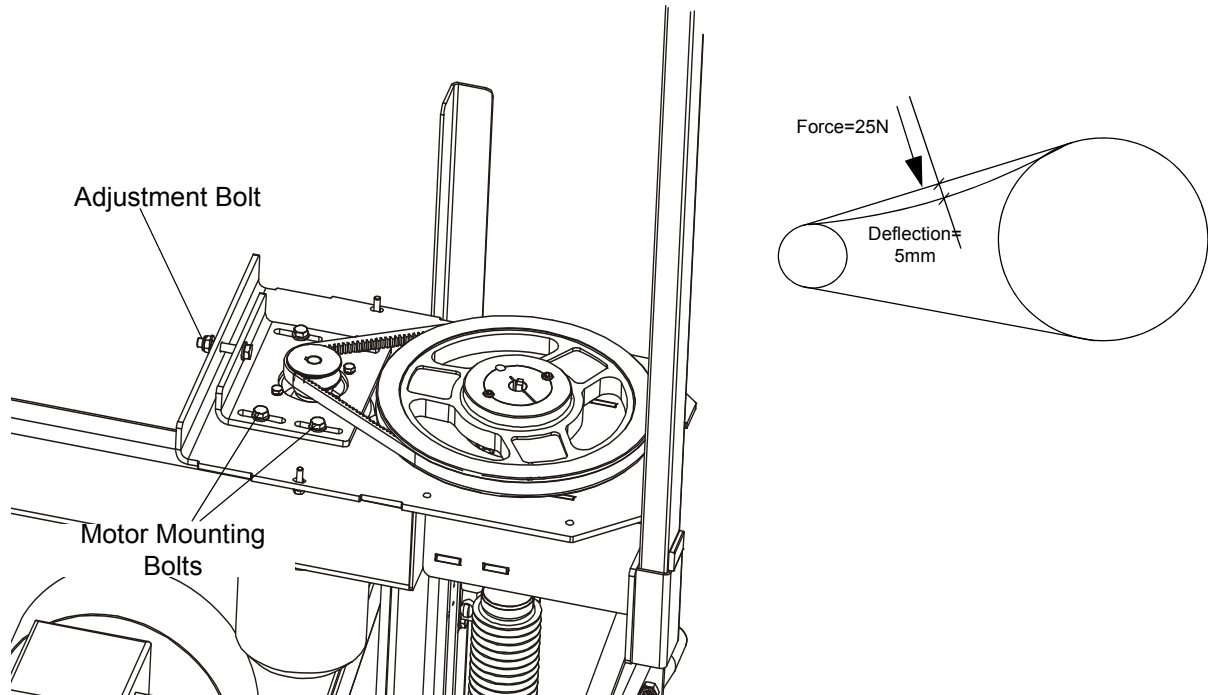

FIG. 4-4
**See Figure 4-4.** Unbolt the up/down top guard. Loosen the motor mounting bolts. Use the adjustment bolt shown below to adjust the belt tension. Tighten the motor mounting bolts. Replace